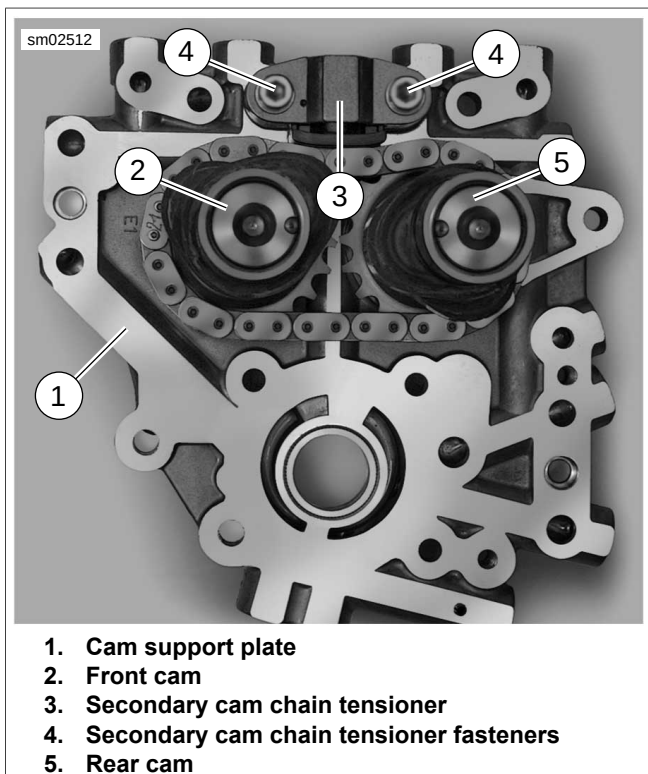

Figure 3-96. Camshafts
- See Figure 3-96. Remove screws (4) and remove secondary cam chain tensioner (3).